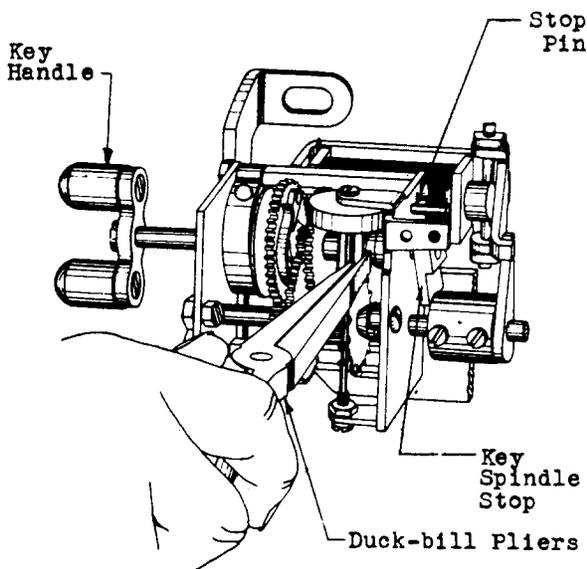

Fig. 16 - Method of Adjusting Governor Springs with Duck-bill Pliers
(7) To obtain uniform speed for three revolutions, the key spindle stop must be so placed that when the spring is fully wound, the stop is not more than 1/16" from the stop pin. It should not be necessary to make this adjustment, however, since the spindle of the key is spotted for the proper position when the key is adjusted in the shop.
(8) If it is found necessary to change the speed of the switch, proceed as follows:
(9) To increase the speed, adjust the two governor springs approximately equal amounts toward the governor shaft with the KS-6015 duck-bill pliers applied as shown in Fig. 16.
(10) To decrease the speed apply the duck-bill pliers to the wings in the manner outlined in paragraph (9) above and adjust the two wings of the governor approximately equal amounts away from the governor shaft.